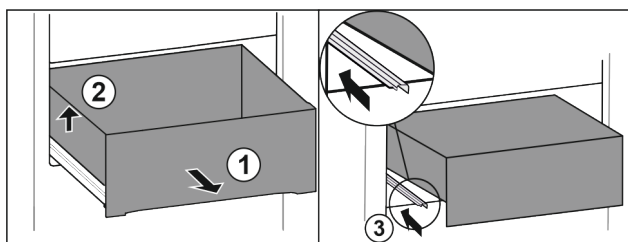

Fig. 90
- Pull out drawer as far as it will go. Fig. 90 (1)
- Lift drawer on the left. Fig. 90 (2)
- Insert left rail. Fig. 90 (3)